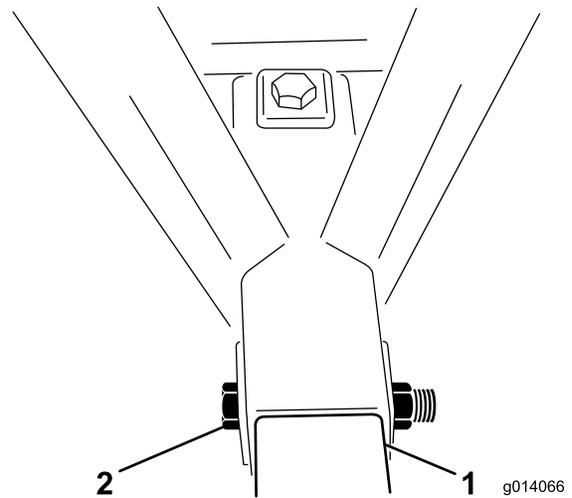

Figure 4
5. Place one 1 x 6-1/2 inch bolt through the frame and hitch tube and install the lock nut (Figure 4).
6. Place the second 1 x 6-1/2 inch bolt through the top of the frame and down through the hitch tube. Install the lock nut (Figure 4).